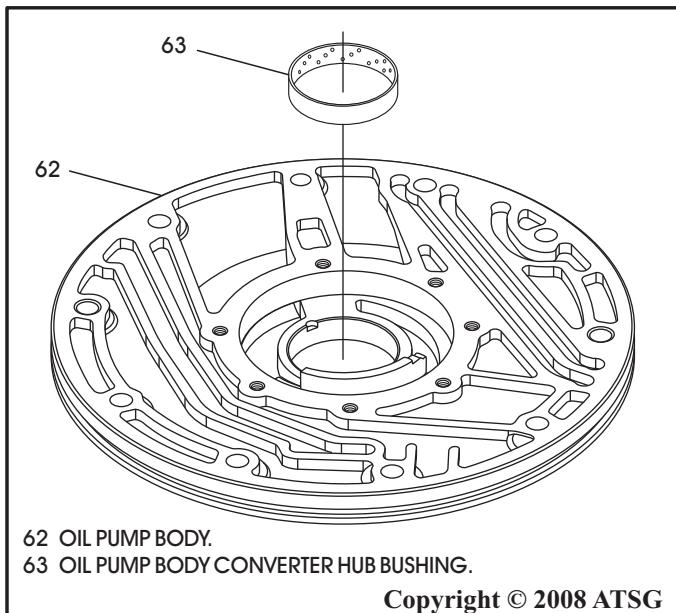

Figure 77
4. Install new oil pump body bushing as needed, as shown in Figure 77, using a proper bushing driver (**No bushing in early 4 speed units**).